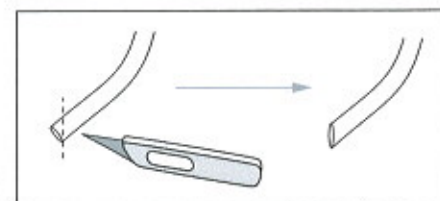

Figure 5. Bevel Tube
1. Use a box knife to cut a bevel at the end of the drain tube that goes into the drip cup at the bottom rear of the refrigerator. Refer to Figure 5.